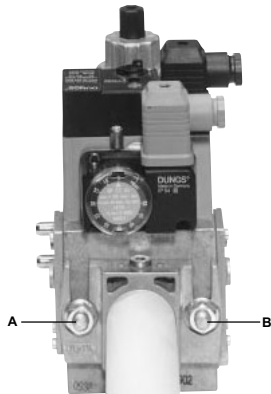
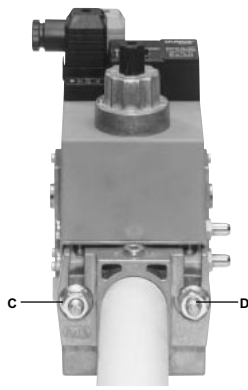

Fig. 20
Fig. 21
3. tighten screws A, B, C and D (Fig. 20 - Fig. 21), according to the mounting positions (Fig. 23);
1. Loosen screws A and B **do not** unscrew (Fig. 20 - Fig. 21).
2. unscrew screws C and D (Fig. 20 - Fig. 21).
3. Remove MultiBloc between the threaded flanges (Fig. 21).